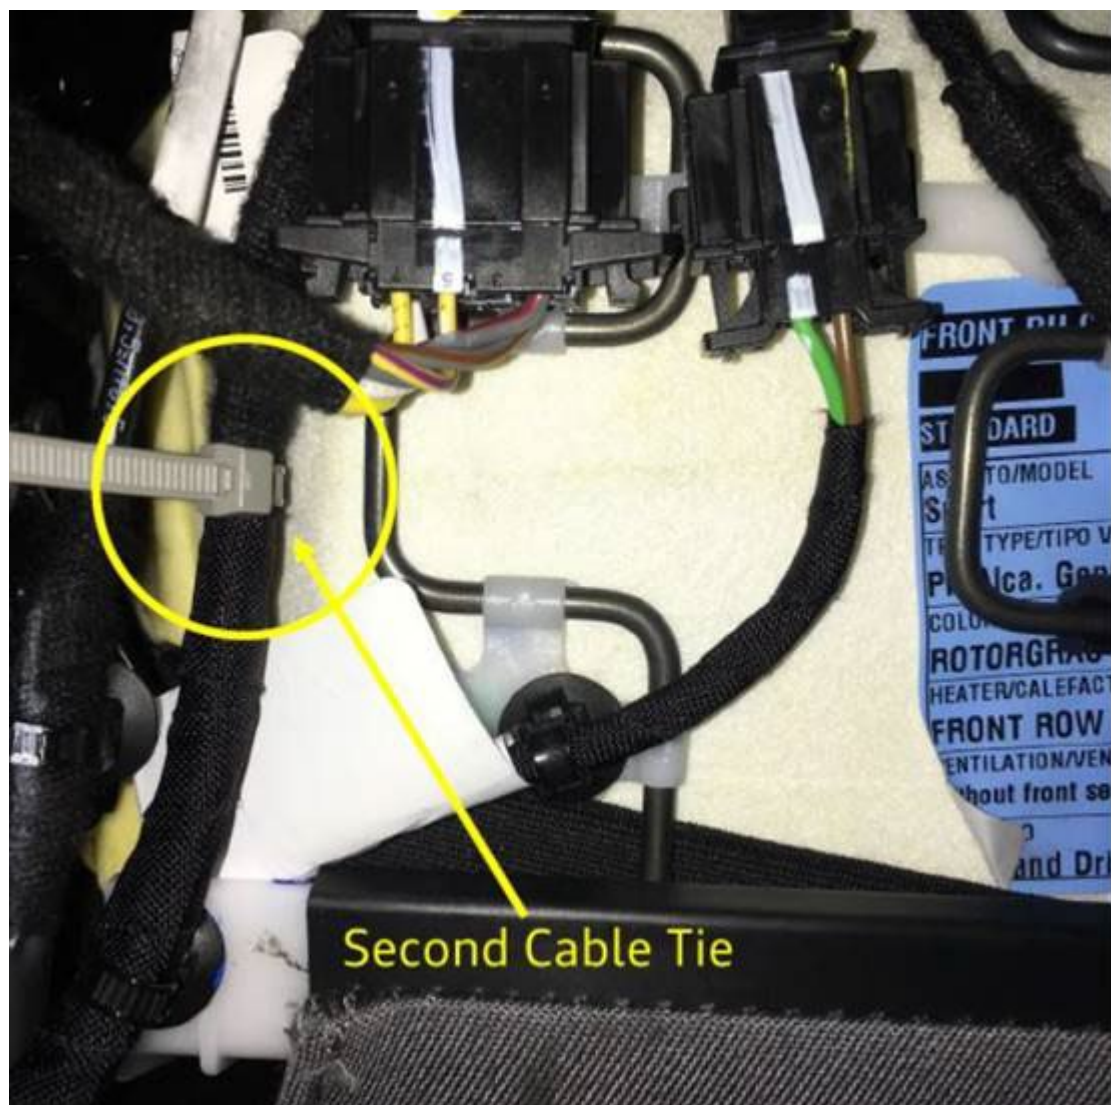

Figure 6. Position of second cable tie behind the 8-pin connector.
3. The second cable tie position is to the rear of the black 8-pin connector (T8m) for the backrest and lumbar adjustment and in front of the harness push pin (Figure 6).